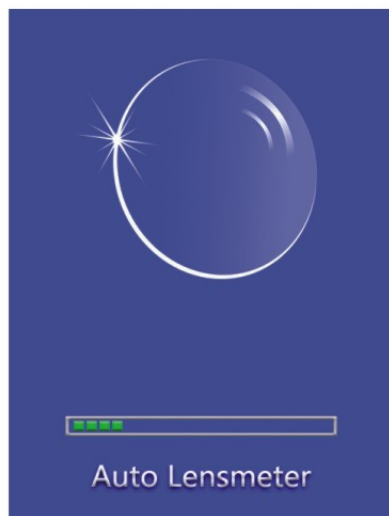

Figure 6.1 Start screen
6.1.2 Turn on the power switch on left side of the machine, and the host screen will display the boot interface as shown in Figure 6.1, in about 2 seconds.